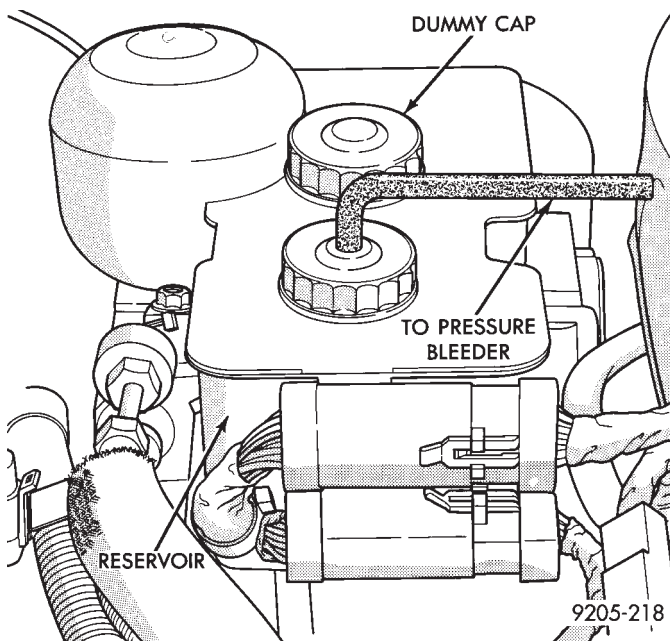

Fig. 2 Pressure Bleeding Brake System
PRESSURE BLEEDING (FIG. 2)
The brake lines may be pressure bled, using a standard diaphragm type pressure bleeder. Only diaphragm type pressure bleeding equipment should be used to prevent air, moisture, and other contaminants from entering the system. The following procedure should be used for pressure bleeding of the master cylinder and wheel circuits (Fig. 2).
(3) Remove both reservoir caps (Fig. 2).
(4) Install pressure bleeder adapter, on front reservoir port and a cap on the rear port of the reservoir (Fig. 2).
(5) Attach bleeding equipment to bleeder adapter (Fig. 2). Charge pressure bleeder to approximately 138 kPa (20 psi).